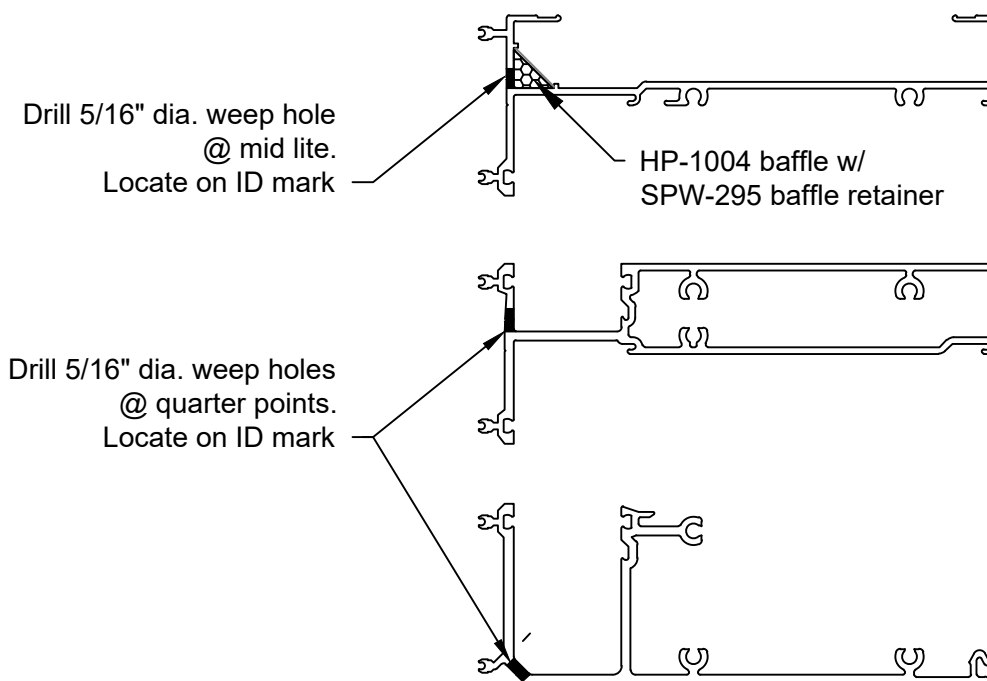

FIGURE 3
- 1.4 Drill 5/16" dia. weep holes at 1/4 points in horizontal and sill members as shown in FIGURE 3, page 7. Where incidental water control is required, drill one 5/16" diameter weep hole at mid-lite of head member. Locate HP-1004 baffle and snap SPW-295 baffle retainer behind weep hole. See FIGURE 3, page 7.